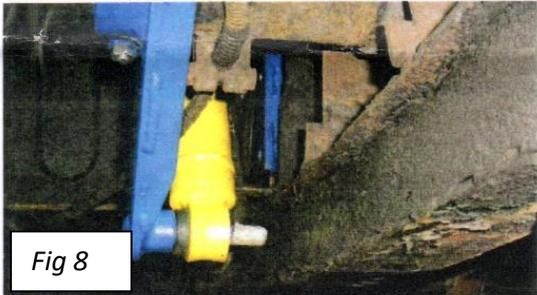
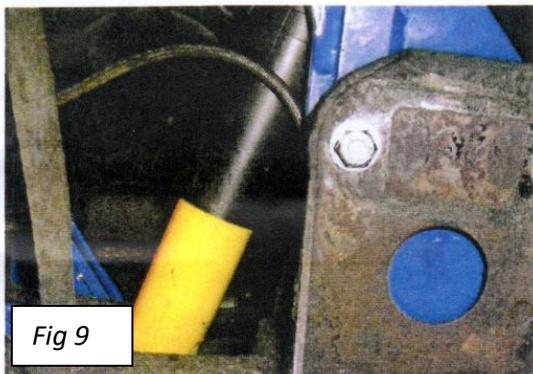
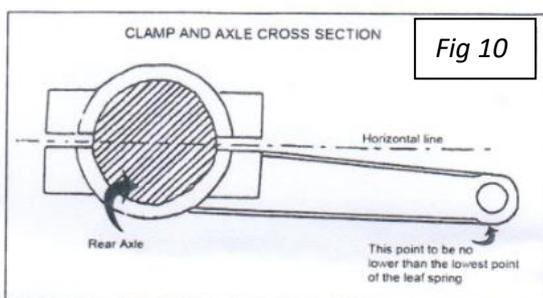

Fig 8. Shock absorber position from the rear.
Fig 9. Shock absorber position viewed from the RH side.
Fig 10. Axle bracket position.
- 6.1. The shock absorbers should be vertical when viewed from the rear of the car *Fig 8* and lean forward viewed from the side *Fig 9*. Adjust the location of the axle brackets to achieve this position. The split between the two sections should be roughly horizontal (bear in mind if the car is horizontal or raised at the rear) and so that the lower edge of the bracket, near the shock absorber pin, is not lower than the rear leaf spring *Fig 10*.